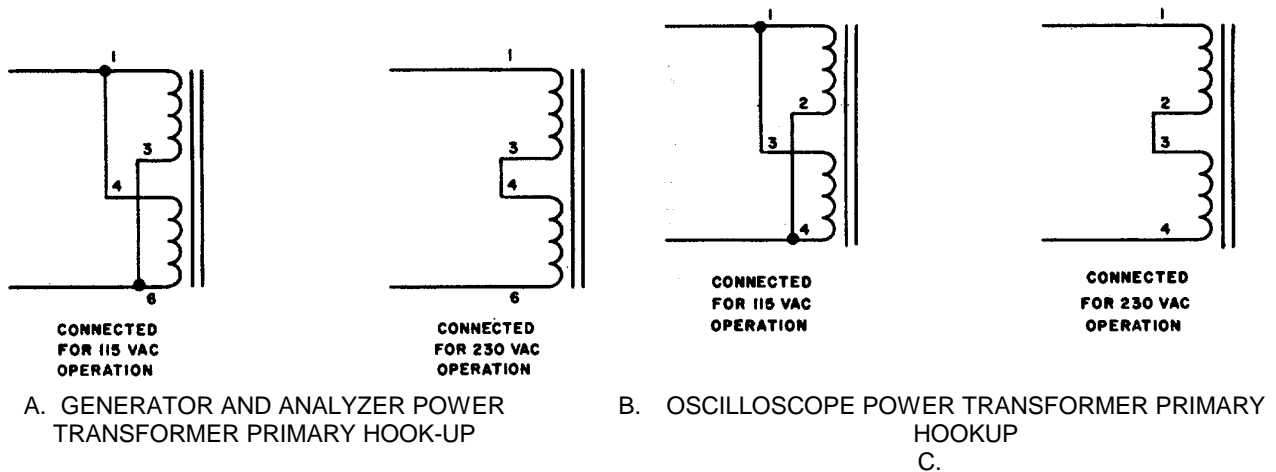

Figure 2-7. Power transformer strapping options.
(1) Remove the top cover from each of the major components exposing the power transformers. The transformers are located at the rear of each chassis and the terminals are clearly marked.
(2) Compare the wiring of the transformer with the wiring illustrated in figure 2-7.
(3) Change the transformer wiring to agree with the 230-volt ac hookup.